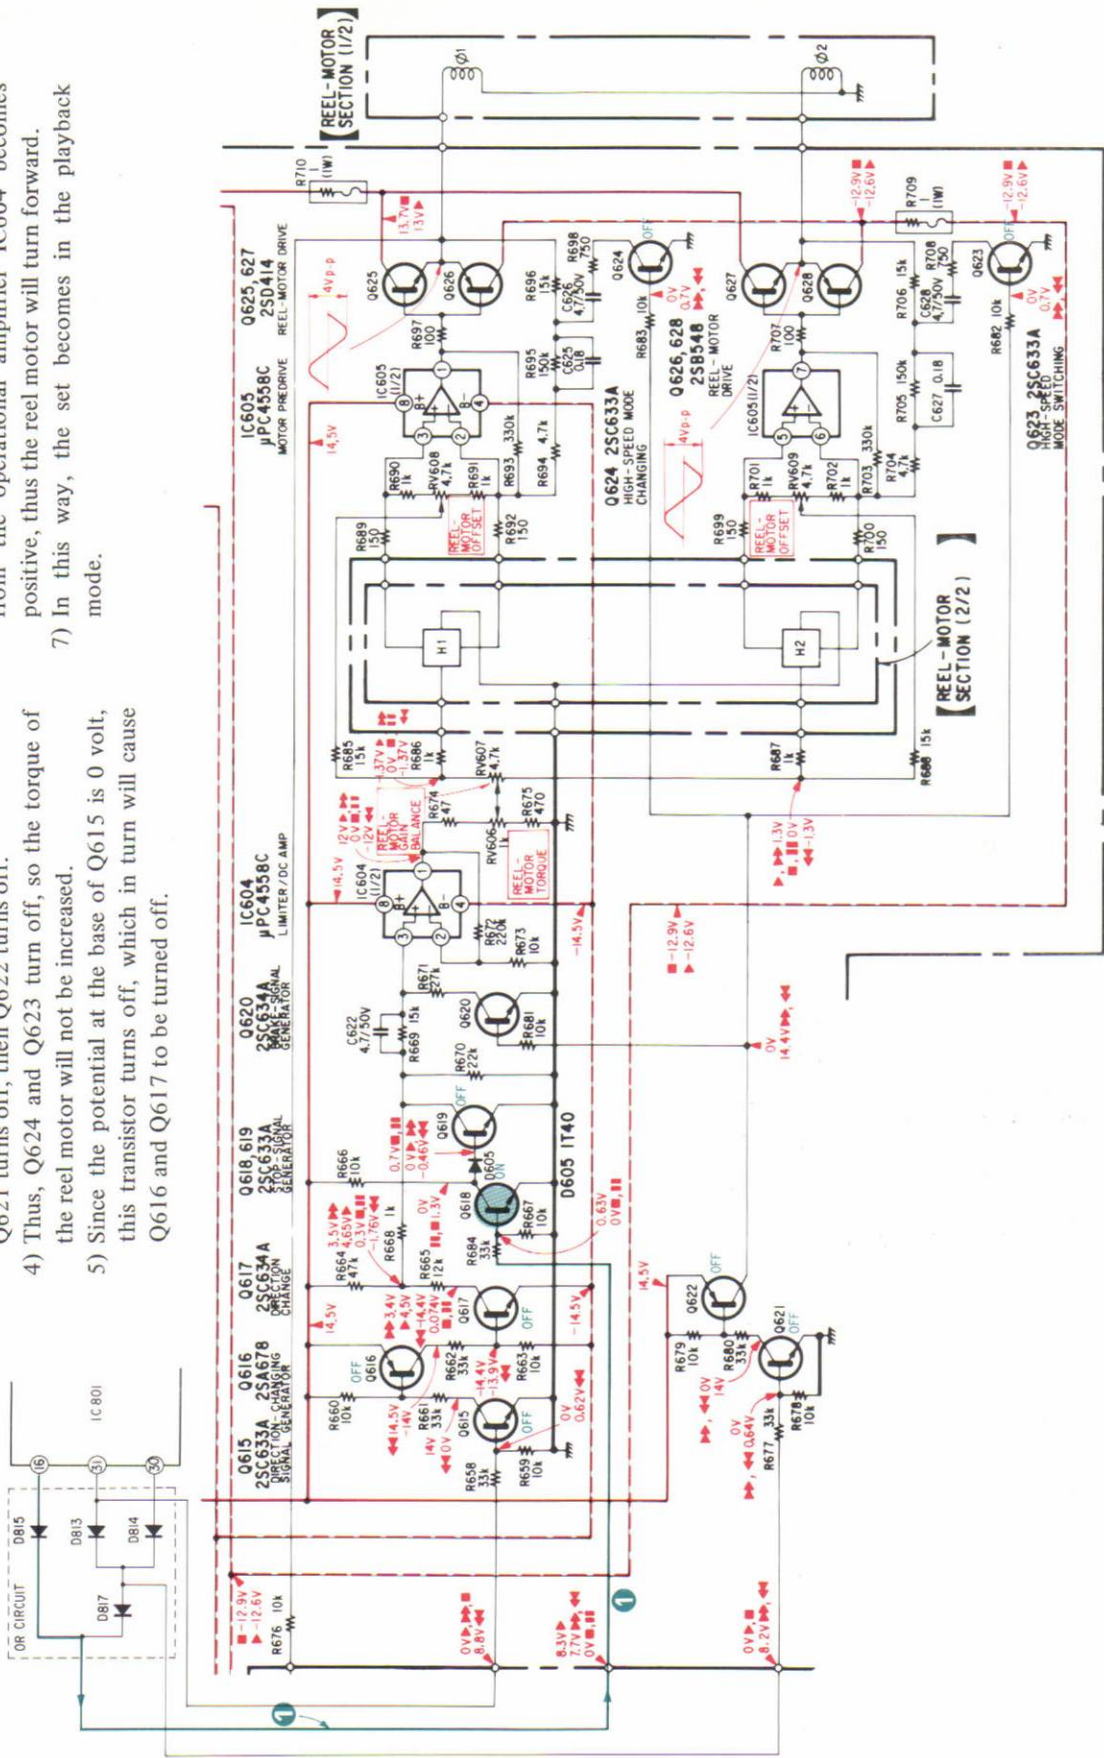

Fig. 19
3. Depressing forward button (See Fig. 19)